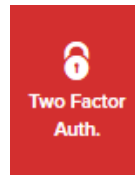

Figure 10. Partner Portal (Two Factor Auth. icon)
4. Click the **Two Factor Auth.** link on the left-hand side of the web page (Figure 10 \(page 52\)).